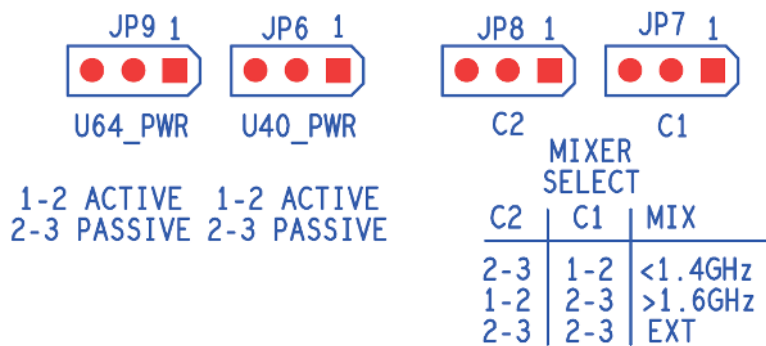

Figure 3. Mixer Jumper Definition
- The GC5325SEK is designed to operate over two different frequency ranges: 700 to 1400 MHz and 1600 to 3000 MHz. The user must make sure the LO source frequency is set to match the configuration of the board. To support the two operating frequency ranges, the receive path contains two separate RF mixers, along with a wideband amplifier and attenuator. The GC5325EVM default configuration is with two active mixers installed. The EVM also has an option to be configured with passive mixers if desired. Jumpers JP7 and JP8 determine which mixer is used in the feedback path, while jumpers JP6 and JP9 provide power or not to the mixers. Figure 3, which is the actual silkscreen that is labeled on the top right side of the GC5325 EVM, shows how to set these jumpers per the desired mode of operation.